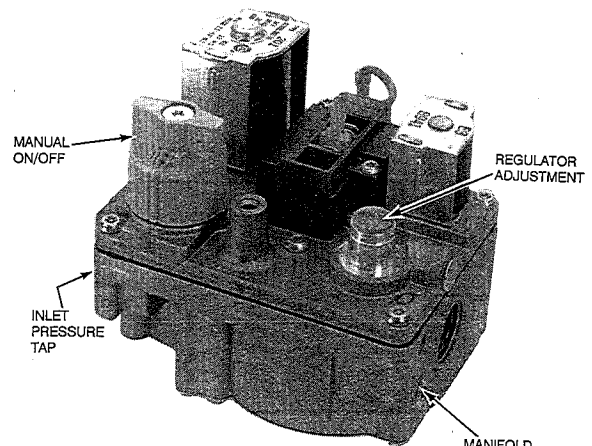

Fig. 14—Redundant Automatic Gas Control Valve
- (1.) Remove regulator adjustment seal cap. (See Fig. 14.)